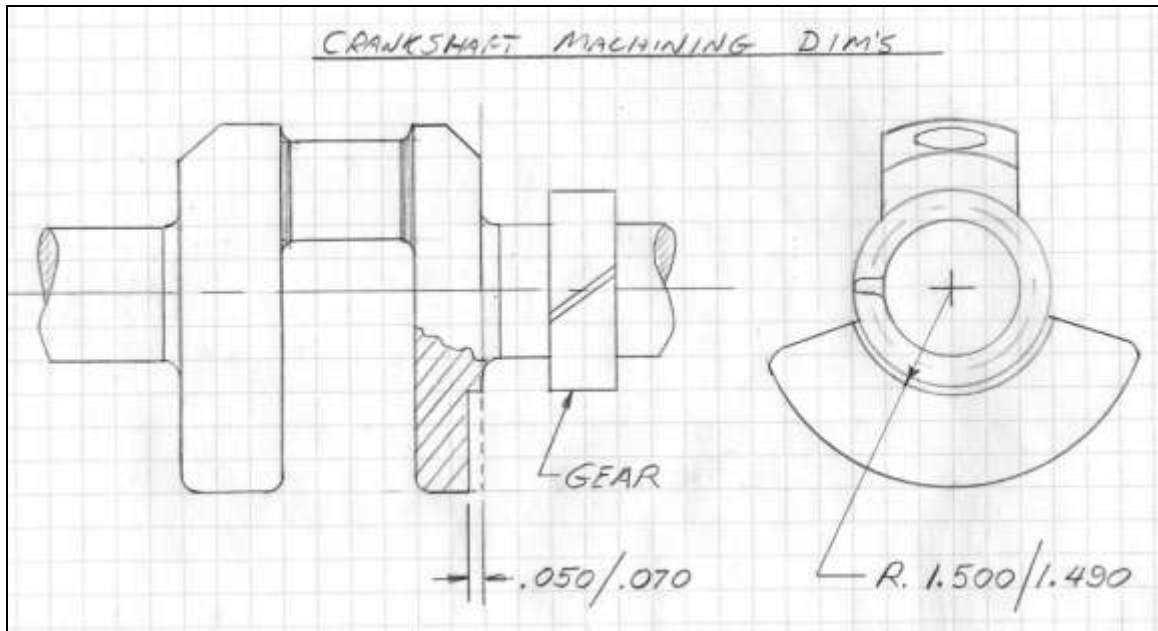
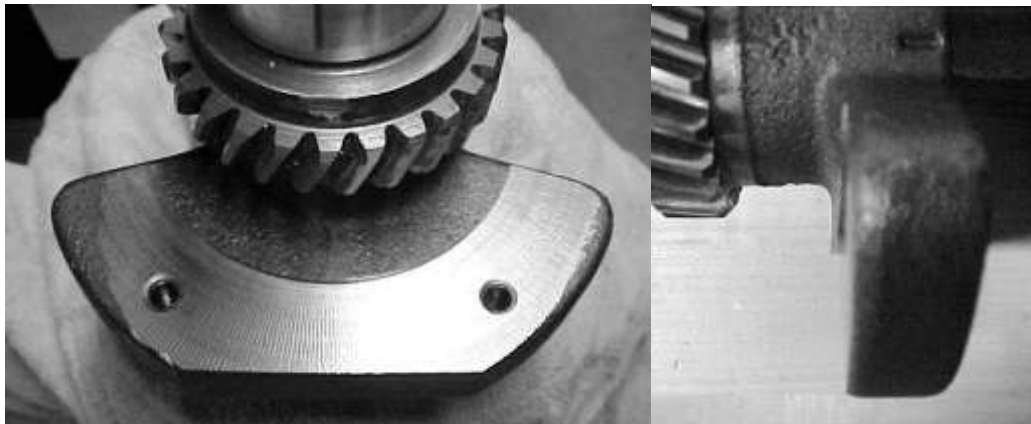

Figure 1
Figure 2
1. Chuck crankshaft such that full access is available to the PTO counterweight. Machine the outer face of the counterweight to the dimensions shown in Figure 1, striving for approximately 80% cleanup of the surface. Usually a cut of .050 to .070 inches deep will result in acceptable cleanup. A flat, smooth surface is desired. At this point your crankshaft should appear as that shown in Figure 2 (less the two holes at this stage).